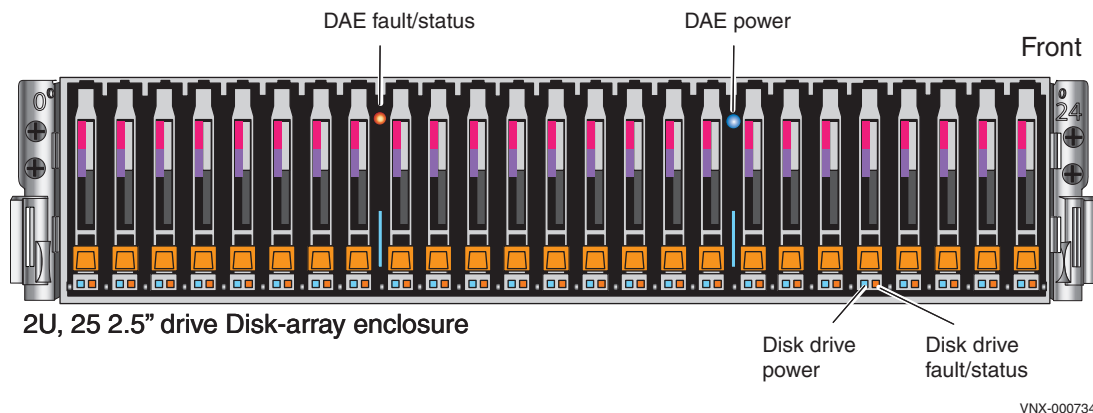

Figure 46 2U, 25 2.5" drive DAE LEDs
1. Verify that the status of the 2U DAE Power LED located on the front is blue and the DAE Fault/Status is off as shown in Figure 46.